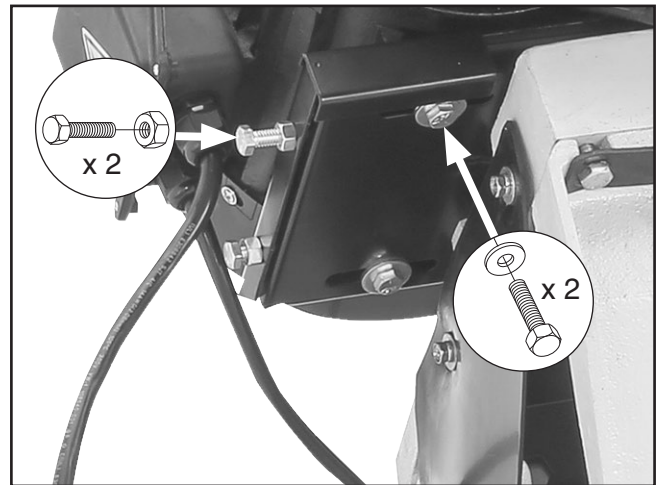

Figure 53. Location of motor mount hex bolts.
- Tighten hex bolts in **Figure 53**, then tighten hex nuts against motor mount to secure.